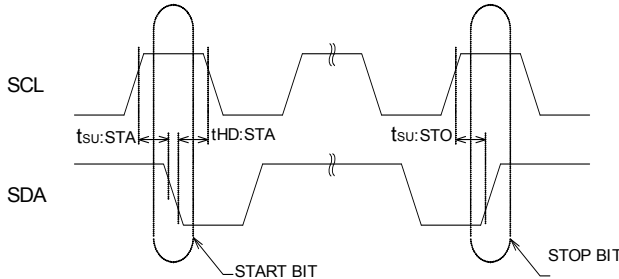

Fig.3 Synchronous Data Timing
- The BR24C21/F/FJ/FV continuously monitors the SDA and SCL lines for the START condition and will not respond to any commands until this condition has been met. (See Fig. 3 Synchronous Data Timing)
- A STOP condition can only be issued after the transmitting device has released the bus. (See Fig.3 Synchronous Data Timing)